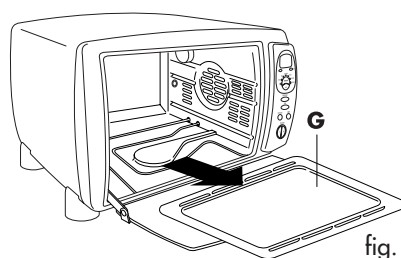

fig. 11
Slide the crumb tray (G) out from under the bottom of your oven (see fig. 11). Wash by hand. Should the soilage be difficult to remove, rinse the crumb tray with hot soapy water and if necessary, scour it delicately, without scratching it.